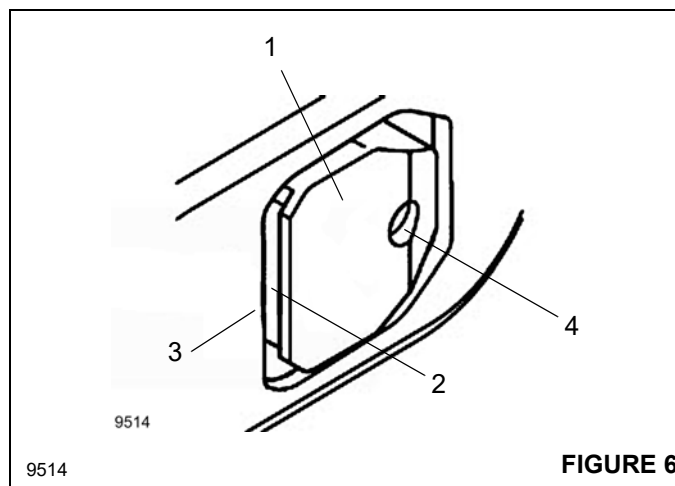

FIGURE 6
You can only lock or unlock a telescopic section manually if the recess (2, Figure 6) in the locking pin (1) no longer engages in the telescopic section (3) above it.
1. Remove the grease fitting from the bore hole (4, Figure 6).
2. Insert a screw into the hole (4). The locking pin (1) is retracted in the process. You can assist this process by lightly hammering on the locking pins.
3. Tighten the screw against the spring load until the locking pin (1) is pulled in as far as it will go and is situated behind the side wall of the telescopic section.
1. Retract the telescopic section until the locking pin (1, Figure 6) is in the middle of the opening.
2. Remove the screw from the bore hole (4).